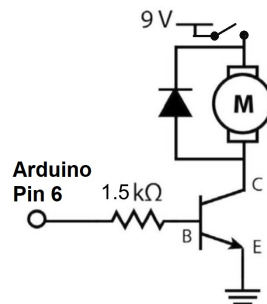
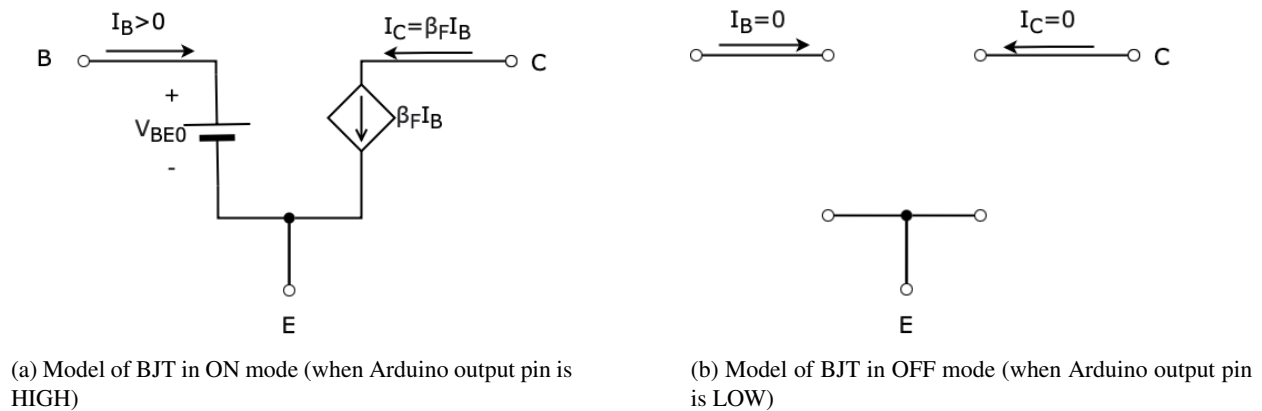

Figure 2: Motor Controller Circuits
Figure 3: Model of NPN BJT in Different Modes
The BJT in Figure 2 is switching between the **ON** and **OFF** modes when the Arduino output pin  $V_A$  is HIGH (5V) and LOW (0V) respectively. The model for both ON and OFF states are shown in Figure 3. When the BJT turns on,  $V_{BE}$  can be modeled as a fixed voltage source between the Base and Emitter terminals with a voltage value of  $V_{BE0}$ , which is usually between 0.6V to 0.8V. In ON mode, there is a **Current Controlled Current Source** modeled between the “Collector (C)” and “Emitter (E)”, i.e., current at the “Collector (C)” is an amplified version of current at the “Base (B)” (notice that  $I_B$  has to flow into the “Base (B)” for the relation  $I_C = \beta_F I_B$  to hold.)  $\beta_F$  is called the **Common-Emitter Current Gain**. When the Arduino output pin  $V_A$  is HIGH (5V), the voltage across the resistor  $R_B$  in Figure 2 is  $V_{HIGH} - V_{BE0}$ . So we can calculate the current flowing into the “Base (B)”,  $I_B$ , and the current flowing into the “Collector (C)”,  $I_C$ , as
From equations above, we know that the resistor in the motor controller circuit (Figure 2) is used for defining the current flow through the Arduino output pin, BJT, and motor. Therefore, we should carefully choose the value of the resistor considering the maximum current that BJT and Arduino pin can handle and the current required to drive the motor. As we increase the value of the resistor, the current into the “Base (B)” decreases, which in turn reduces the current flow through the motor, slowing down the motor rotation.